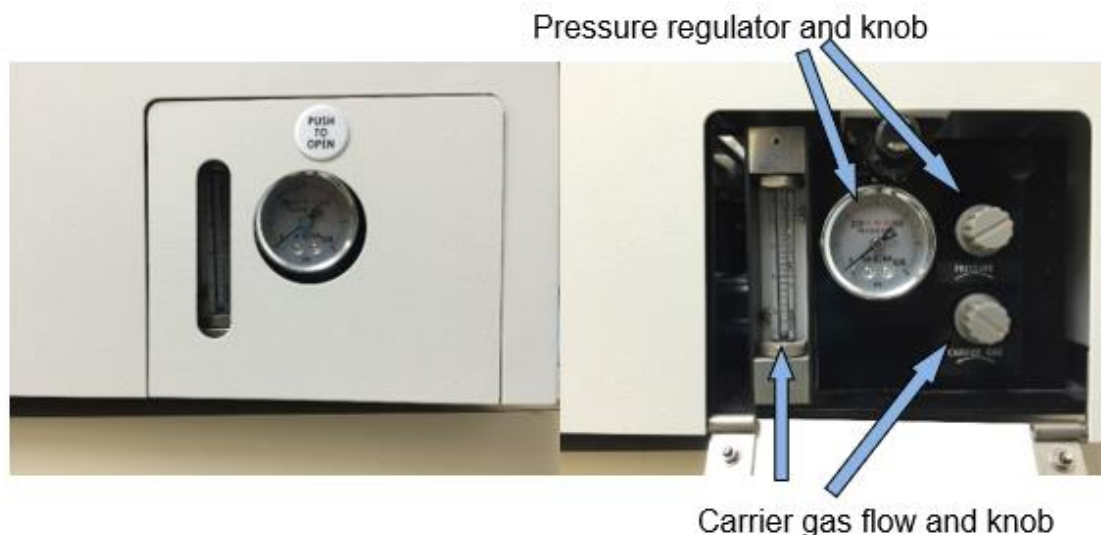

Figure 7. Side panel of SSM-5000A and location of carrier gas and pressure regulation knobs.
- 3.3.2 On the front of the SSM-5000A, check the carrier gas pressure to ensure that it is at 200 kPa (Figure 7). Adjust it using the **pressure regulation knob** if necessary.
- 3.3.3 Check that the carrier flow rate is at 0.5mL/min; if necessary, adjust it using the **carrier gas knob** (Figure 7).